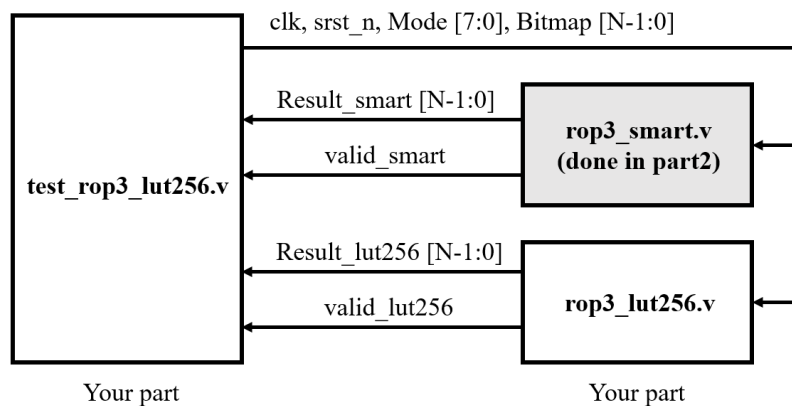

Figure5: Part 3 Architecture
- (1) This testbench should send identical inputs to both modules (`rop3_lut256` & `rop3_smart`), and compare their computation results. A reference testing architecture is shown in Figure 5.
- (2) This testbench should generate all 256 modes and all possible combinations of P, S and D for each mode. Try to use for-loop and traverse with order